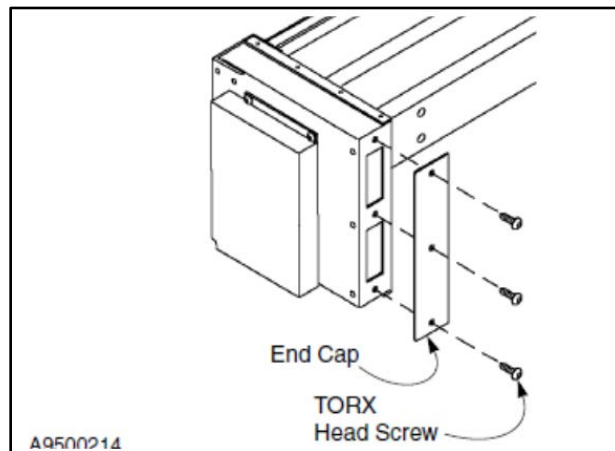

Figure 52
5. At the ends of the door panel to be replaced, remove the two TORX® head screws securing each hinge plate to the panel. (See Figure 52.)
4. Remove the associated end cap from the head assembly to expose the upper end of the spring strap. Each end cap is held in place with three, 20-mm-long, TORX head screws. (See Figure 52.)